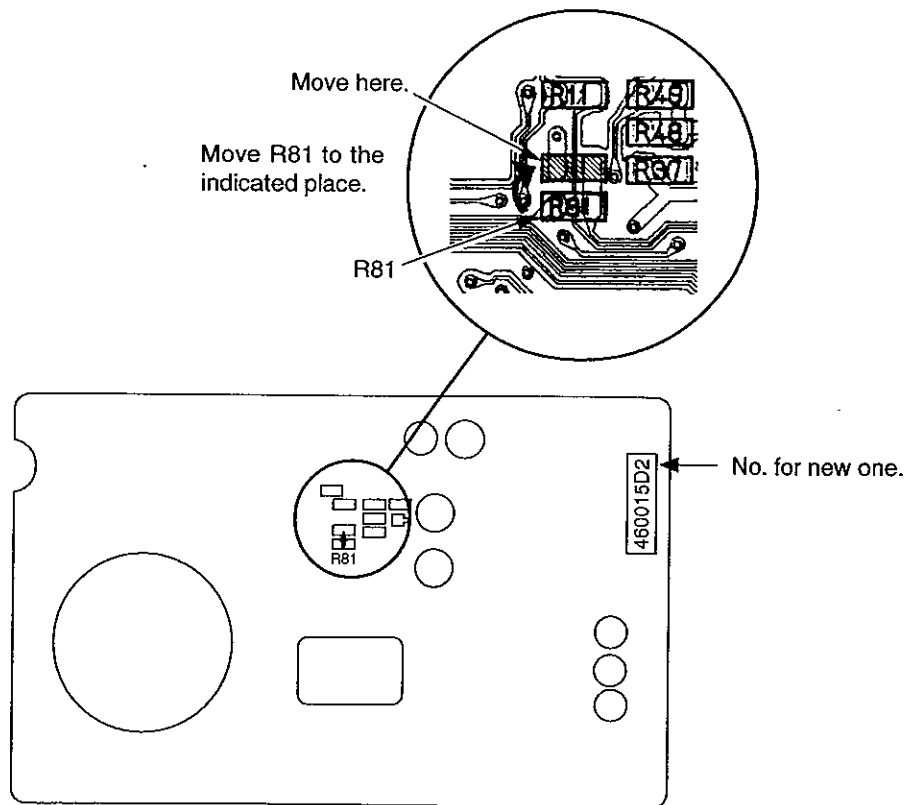

Fig. 1.2 Modification on New Mechanism P.C.B. Ass'y (C3)
(2) Use the former type one as it is. (However, you need to modify the new Mechanism P.C.B. Ass'y (C3).)	Replace with the new one (CB00687A), since the former type one is not supplied. Further, to use with the former type Main P.C.B. Ass'y (M3), change the location of the chip resistor R81 on the Mechanism P.C.B. Ass'y (C3) as shown in Fig. 1.2 on the next page.